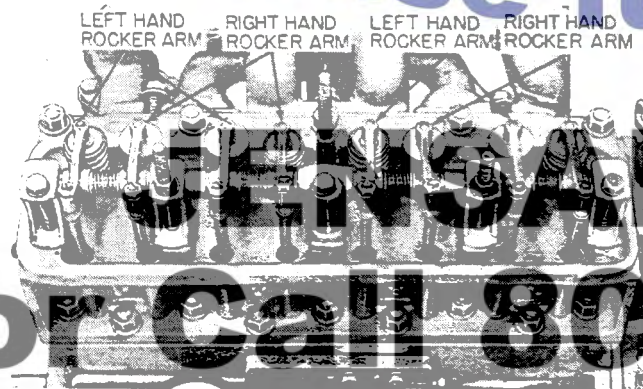

Figure 7 - Right Hand and Left Hand Rocker Arms
- When reassembling rocker arms on shaft, make certain the right and the left hand rocker arms are assembled in their respective positions, see Figure 7.